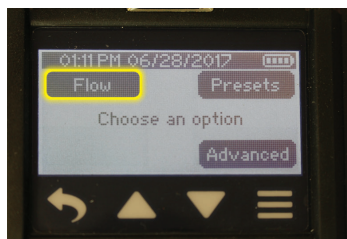

Figure 4. Multiple-tube Flow Rate Verification Train Overview - Constant Flow
2. Press tubing from the outlet (unlabeled side) of a Constant Pressure Controller (CPC) onto the pump inlet (*Figure 4*).
3. Press tubing from the 224 Series Multiple-tube Low Flow Holder onto the CPC inlet (labeled "To Sample" - *Figure 4*).
4. Break tips off a representative sorbent tube and insert (arrow printed on tube pointing toward the pump) into the rubber sleeve of a 224 Series Multiple-tube Low Flow Holder (*Figure 4*). Repeat for additional tubes up to the maximum number of holder ports or desired number of tube samples. **Important! Fill unused tube holder ports with unopened sorbent tubes to keep ports clean during sampling.**
7. Use a length of flexible tubing to connect the exposed open end of the first port sorbent tube to a flowmeter outlet (*Figure 4*).